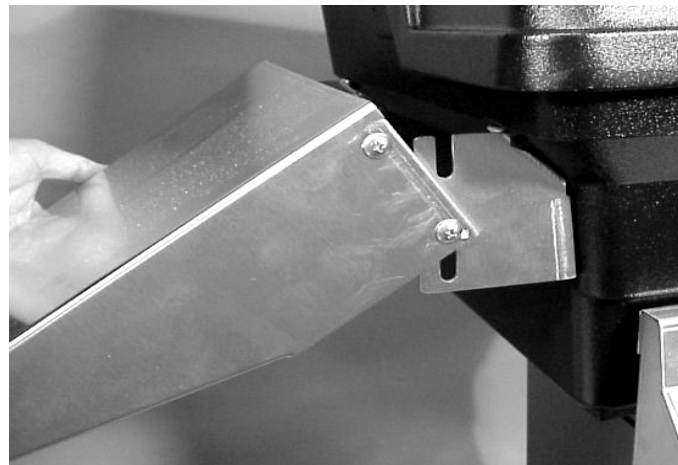

Figure 10 Hinging Shelf
10. Install the left and right shelf brackets to the lower casting of your barbecue, using the four 1/4 X 20 X 3/4" hex bolts, secure with four 1/4" lock washes and four 1/4" hex nuts to hold each bracket (see Fig. 9). Attach shelf to the brackets by inserting the threaded screws on the shelf through the lower slots on the brackets. Let the shelf hang down. Attach the 10-32 Hex Nuts (see Fig. 10).
On portable models, this shelf, in the upright position, is to be used as a handle to move the barbecue around. It is a sturdy handle properly hinged securely into place (see Fig. 10).